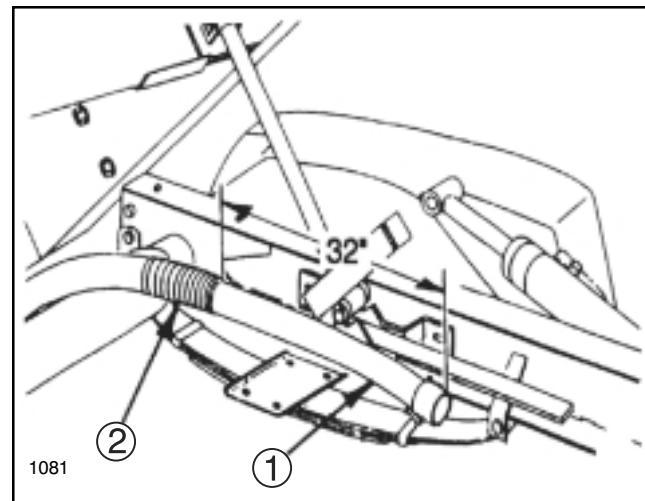

FIG. 17
16. Install the protective hose loom on the 100" pressure hose as shown in FIG. 17. Secure the loom to the hose by tightening a tie strap around each end of the loom so that the loom does not shift front to rear.